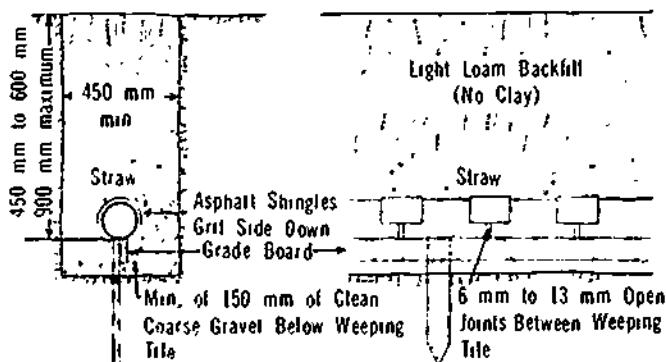

Figure 24-8. Cross-Sectional View of Trench
d) The required information includes the proper length of weeping tile for the disposal field for the number of people normally using the system. The pattern for the layout of the tile, the trench details, and the desirability of using a distribution box must also be determined. A design for a trench is shown in Figure 24-8. Note the rectangular shape of the cross-section of the excavation, also the grade board and the supporting stakes for maintaining the proper levels for the tile, and the location and material for the various kinds of fill.